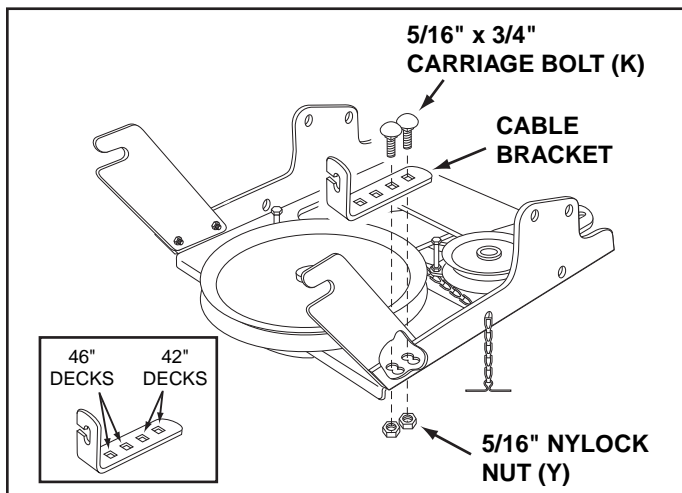

FIGURE 36
STEP 36: (SEE FIGURE 36)
- Assemble the cable bracket to the clutch/idler assembly using two 5/16" x 3/4" carriage bolts (K) and 5/16" nylock nuts (Y). Use the two front holes in the cable bracket if your tractor has a 42" mower deck. Use the two rear holes if your tractor has a 46" mower deck.